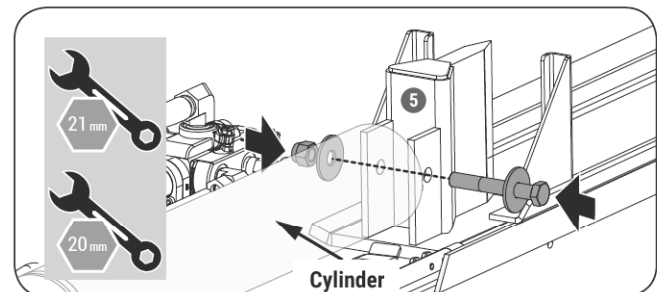

Figure 7c
3. Assemble the wedge and cylinder. (See **Figure 7c.**)